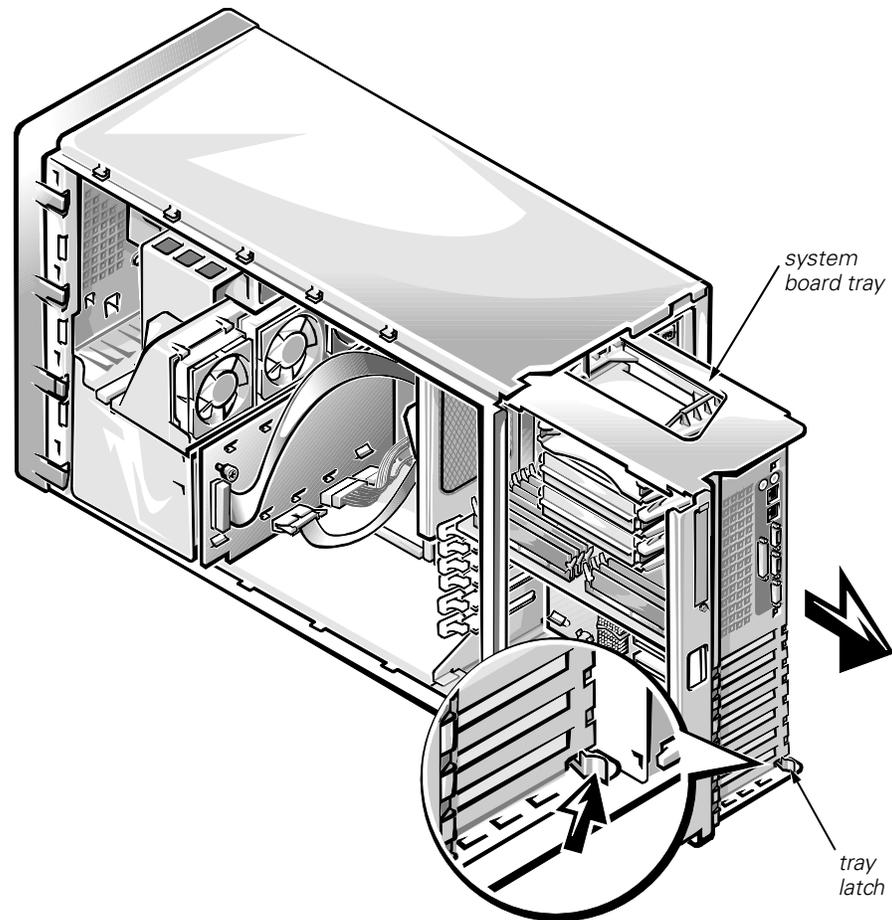

Figure 4-26. System-Board Assembly Removal
2. To remove the system board tray, first release the tray latch at the back lower corner of the tray (see Figure 4-26) and pull the tray open to the service position. Then depress the latch again and pull the tray out of the chassis.